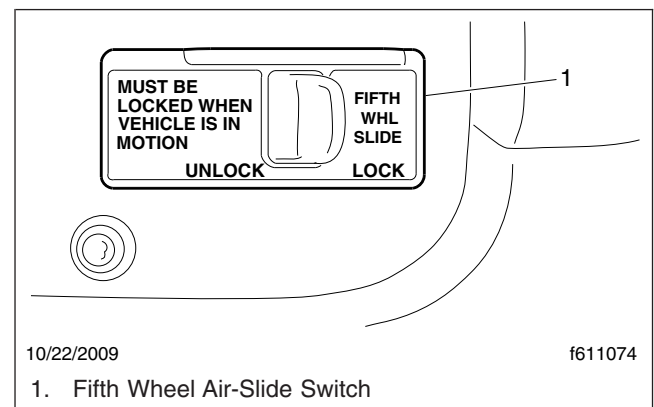
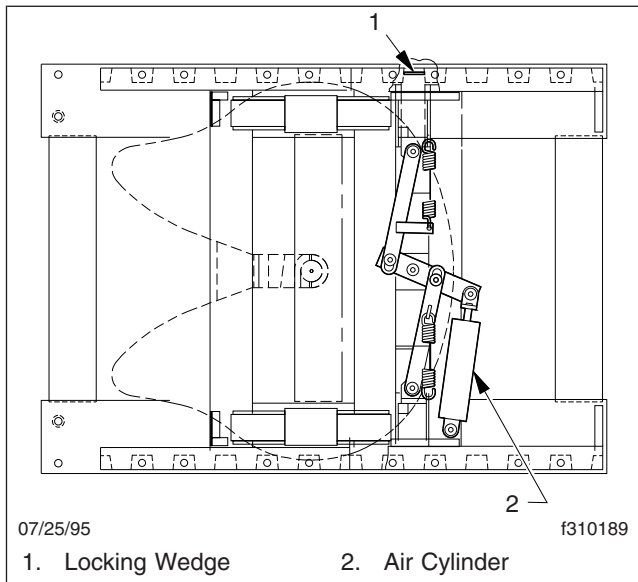

Fig. 17.14, Air-Slide Switch
Fig. 17.15, Air-Operated Sliding Fifth Wheel (Fontaine shown)
The slide feature may be operated with an air switch mounted in the dash, that operates an air cylinder that locks and unlocks the slide. See Fig. 17.14.
- Set the air-slide switch (Fig. 17.14) to UNLOCK. Ensure the locking plungers have released. See Fig. 17.15.